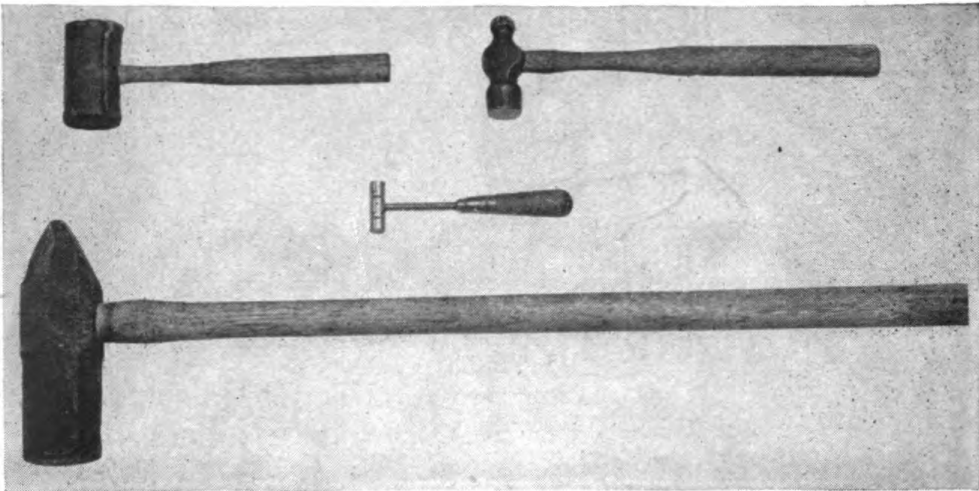

Figure 18. Hammers.
a. **TYPES.** Hammers used by airplane mechanics are classified as ball-peen, brass, mallet, plastic, and sledge (striking hammer). (See fig. 18.)